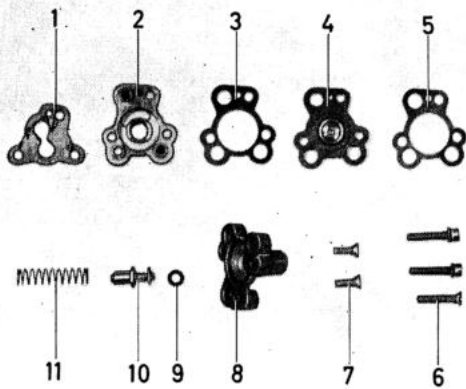

Fig. 2-80. By-pass valve
N.B. When adjusting, do not press the adjusting screw inwards since the rubber ring (9, Fig. 2-80) sealing between the screw and cover can drop out of position. Check for air leakage by e.g. placing a finger over the rubber ring hole.
The by-pass valve is replaced complete. The valve is removed from the carburettor by screwing out the three screws (6, Fig. 2-80). Clean the gasket surface and fit the new valve with gasket (1). Carry out a function test. Note that the by-pass valve is marked y on the cover.